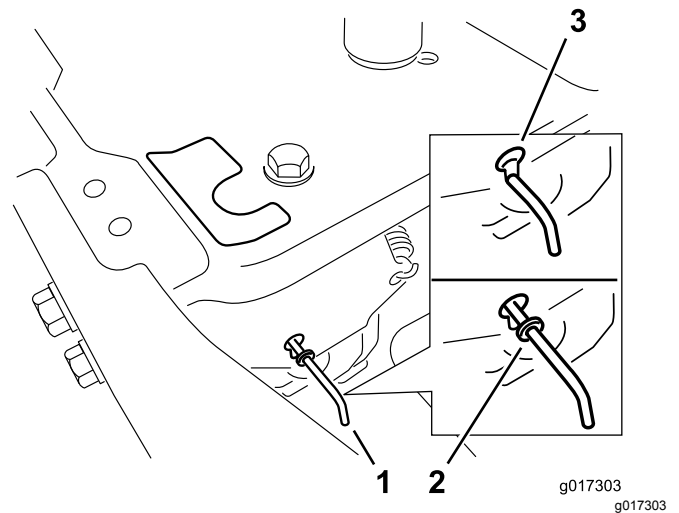

Figure 22
4. Move the bypass levers forward through the keyhole and down to lock them in place (Figure 22).
Move the bypass levers rearward through the keyhole and down to lock them in place as shown in Figure 22.